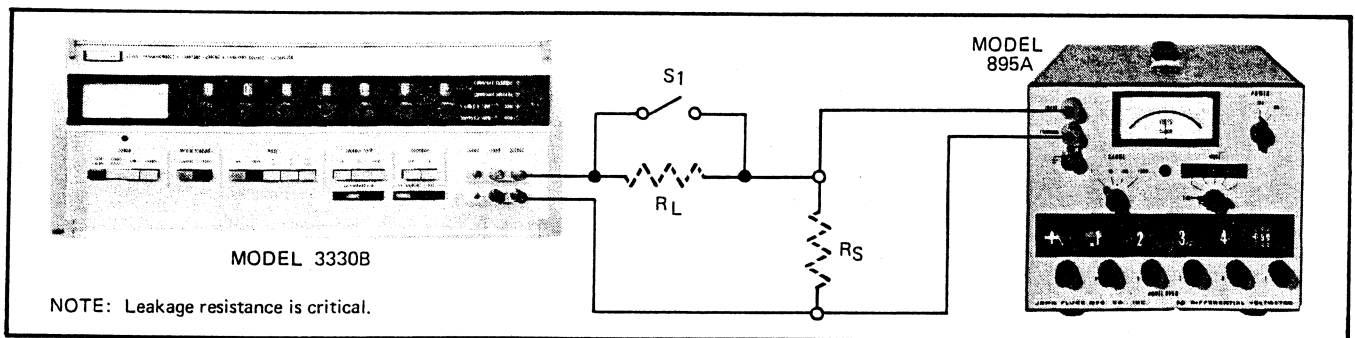

Figure 4-1. MA MODE REGULATION CHECK-EQUIPMENT CONNECTIONS
c. Make the equipment connections shown in Figure 4-1.  $R_L$  is 1M, 2W and  $R_S$  is a 1K, 0.002W